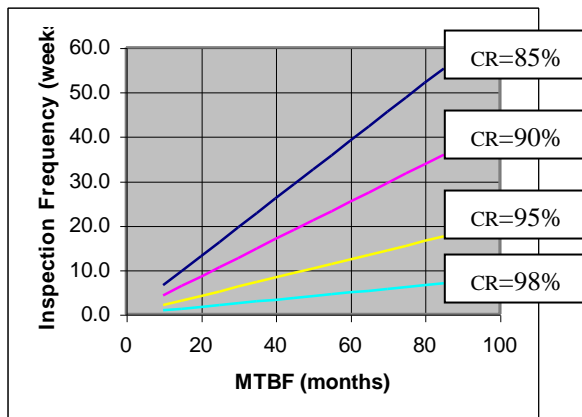

Figure 1. Inspection frequency vs. MTBF
Figure 1 shows inspection intervals as a function of equipment MTBF and various capture rates (CR). It reminds us of the fact that as our equipment's MTBF increases we could also prolong inspection intervals. Here is an example: If our machinery population covered by predictive monitoring techniques had an MTBF of 36 months and we wished to have a capture rate of 95%, our inspection frequency should be 7 weeks. As we might improve the reliability of our machinery to say, an MTBF of 45 months we are prompted to increase our inspection interval to 9 weeks. This also means however that all along there is a probability that we will not be able to capture 5% of the occurring problems; we are going to miss them because we are not there to inspect. This is borne out by the fact that we experience unexpected machinery break-downs in spite of periodic monitoring programs - much to our management's disappointment. Only continuous monitoring will reduce if not eliminate that risk.